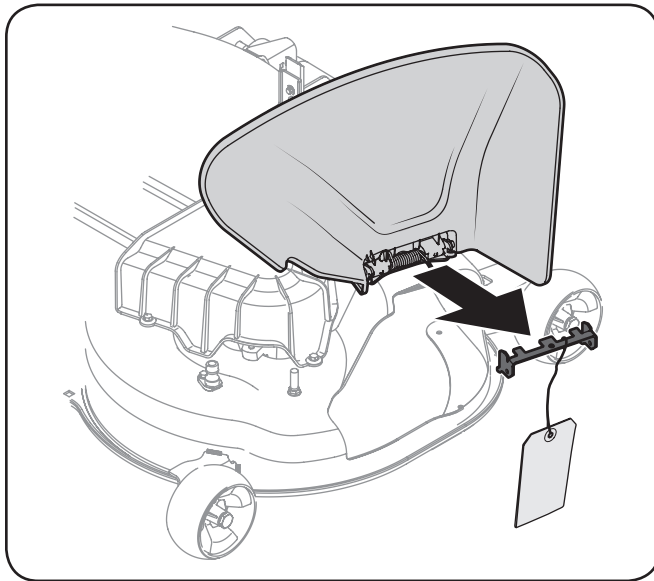

Figure 3-7
7. Holding the chute deflector fully upward, remove the shipping brace. Lower the chute deflector and discard the shipping brace. See Figure 3-7.